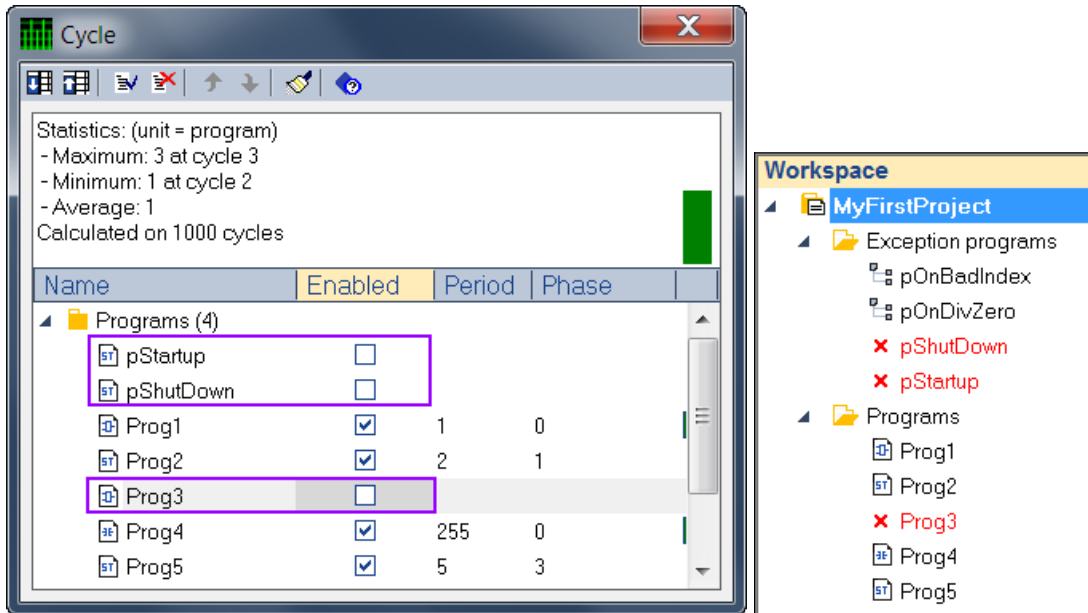

Figure 54: Unselect a program for the compiling process
- use the Select buttons   to specify if the program must be called in the cycle. Unselected programs are ignored at compiling time, and are shown with a red cross icon in the workspace (Figure 54).